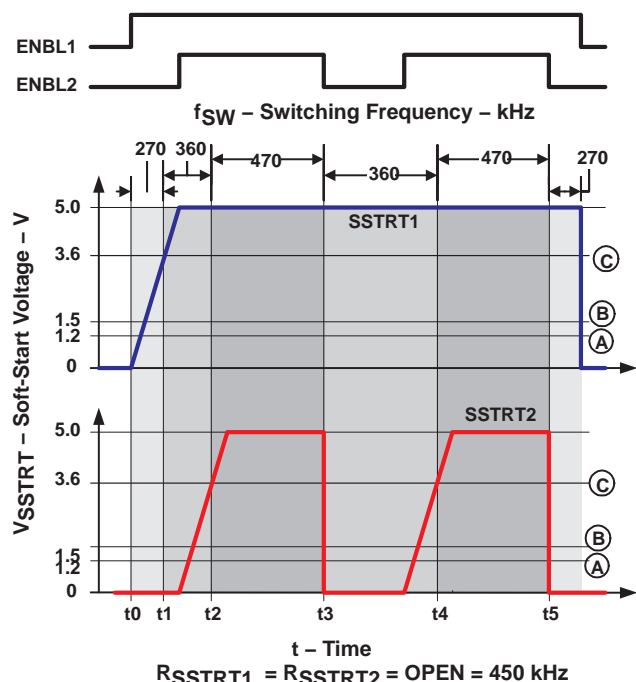

Figure 1
(7) See waveform point A in Figure 1
(8) See waveform point B in Figure 1
(9) See waveform point C in Figure 1